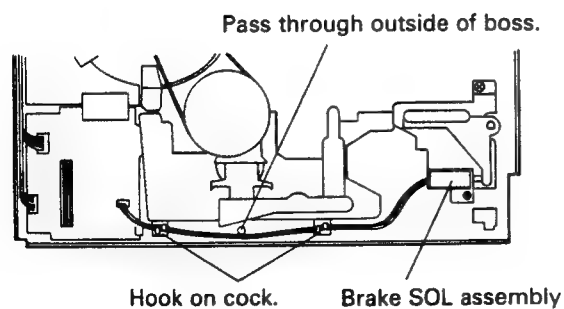

Fig. 1-18-2
- (1) Mount the brake SOL assembly accurately with the screw (1) in the place it was mounted.
- (2) Remove the SOL link lever. (Refer to item 1-18.)
- (3) For routing of the wire leads of the brake SOL assembly, refer to Figure 1-18-2.